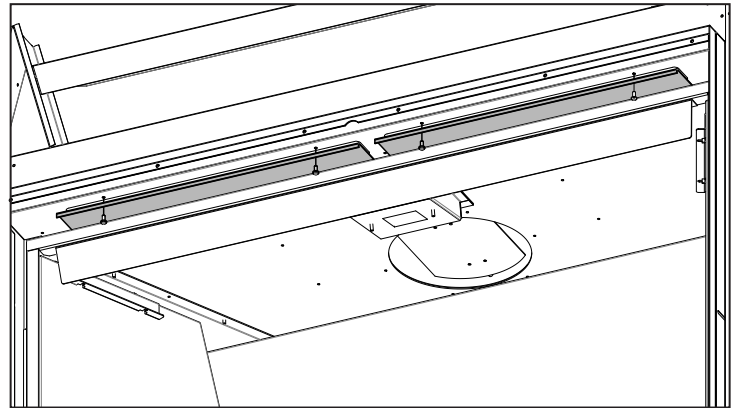

Figure 37: CSS Cover Plates
- Step 4.** Remove the two cover plates on the ceiling of the unit. These are secured by four (4) T-20 screws. See Figure 37.